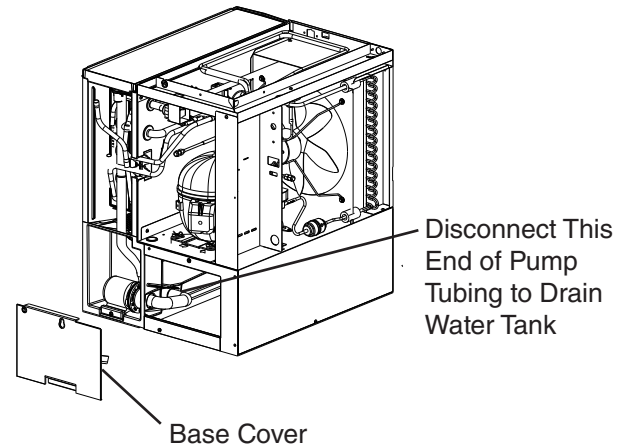

Fig. 11
- 2) Drain the water tank. Remove the base cover, then disconnect the water tank end of the pump tubing to drain the water tank. See Fig. 11. After the water tank has drained, reconnect the pump tubing.
- 2) Remove the base cover, disconnect the water tank end of the pump tubing to drain the water tank. See Fig. 11. After the water tank has drained, reconnect the pump tubing.